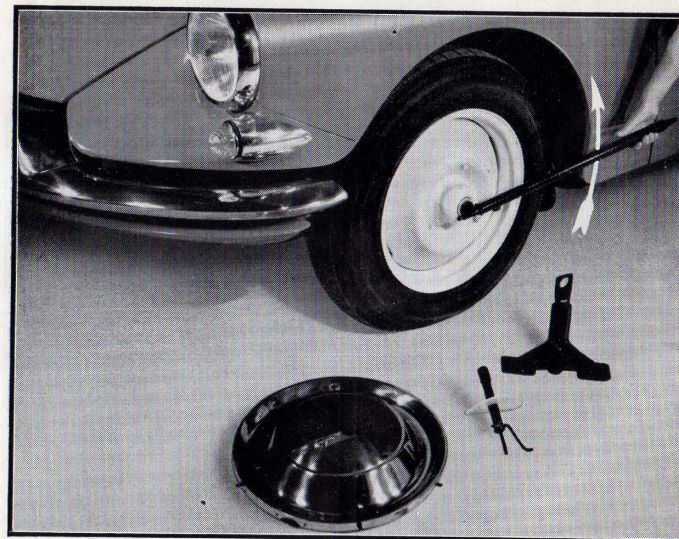

Figure 10
Proceed as shown in figure 10. At this stage the nut simply has to be loosened, not unscrewed.
- Tighten the wheel lug nut thoroughly by using end **1** of the long lever as shown in figure 10. A fairly heavy force should be exerted on the lever (equivalent to 75 lbs.).